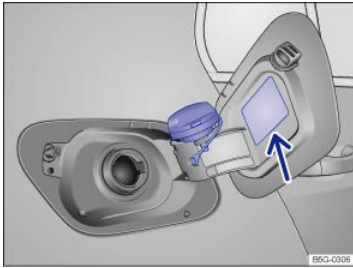

Fig. 160 Rear passenger side of vehicle: Fuel cap placed on the open fuel filler flap.
- Unscrew the fuel cap counterclockwise and remove. Use the slot on the fuel filler flap ⇒ *Fig. 160* to hold the cap while refueling.
The correct fuel grade for your vehicle ⇒ *Fuel types* is listed on a sticker on the inside of the fuel filler flap ⇒ *Fig. 160* (arrow). This sticker may also be located on the hinge of the fuel filler flap.
The correct fuel grade for your engine is shown on a sticker on the inside of the fuel filler flap ⇒ *Fig. 160*.